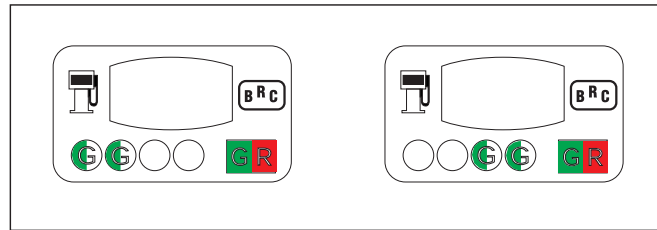

Fig. 30
- After approx. 3 seconds, the system automatically changes over to gas and the TWO-COLOURED LED alternatively turns on red and green to indicate the beginning of the acquisition phase of the STEP actuator reset position (fig. 30).